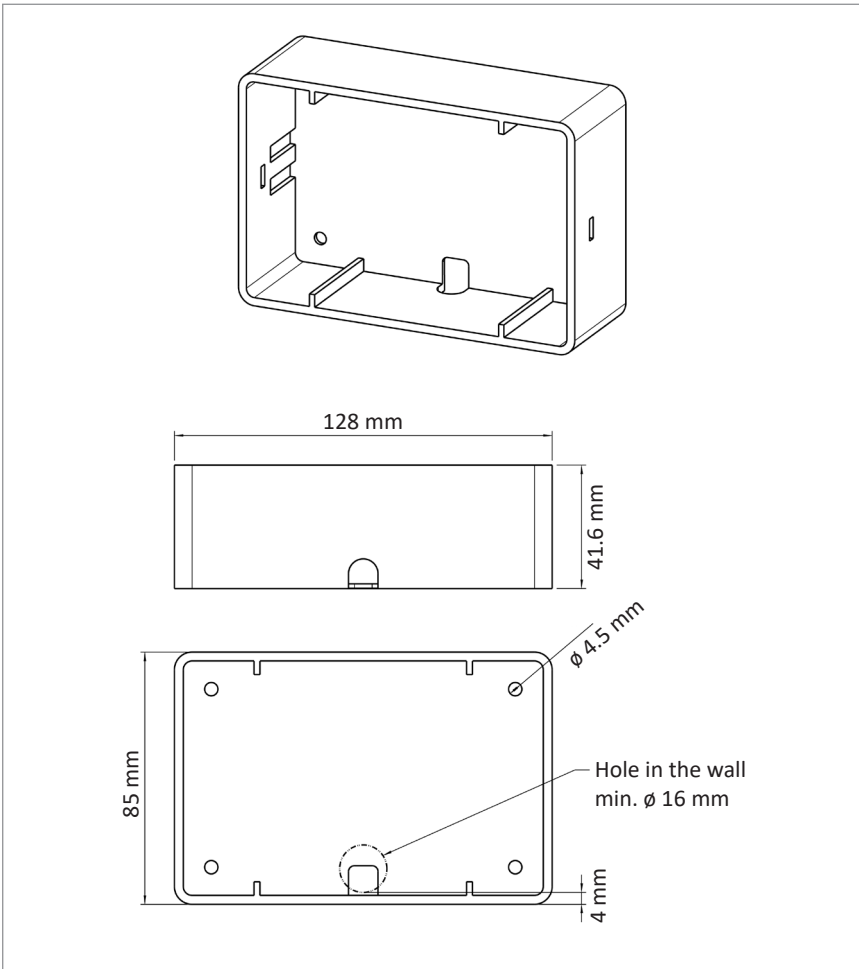

Fig. 7: Measurements of the wall-mounted housing
2. Create the wall opening according to the dimensions in the Fig. 7.